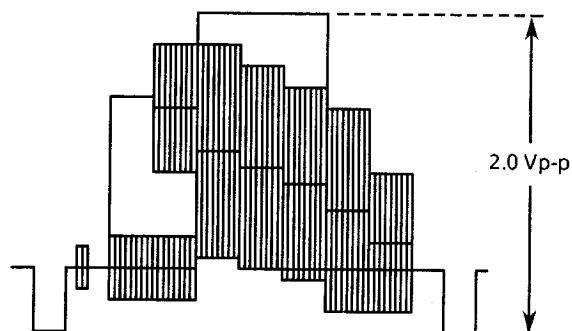

Figure 1-8.
5. Observe the voltage of pin (34) of IC201 (video output) on the oscilloscope screen. If the playback video signal level is above 2.0Vp-p, turn R204 (deviation control) clockwise. If below 2.0Vp-p, turn the control counter-clockwise. Now make self-recording and playback again.
6. Repeat the above step-5 to finally get the playback video signal level at 2.0 ± 0.08 Vp-p, as shown in **Figure 1-8**.